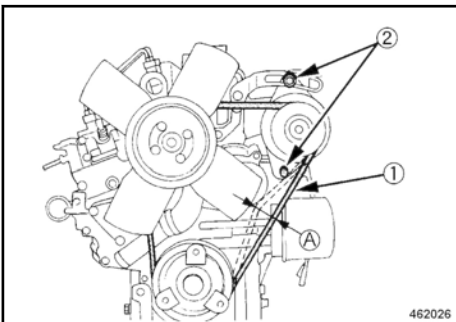

Fig. 139
Inspect the entire circumference of the V-belt (1) ↗ Fig. 139 visually for damage and cracks.